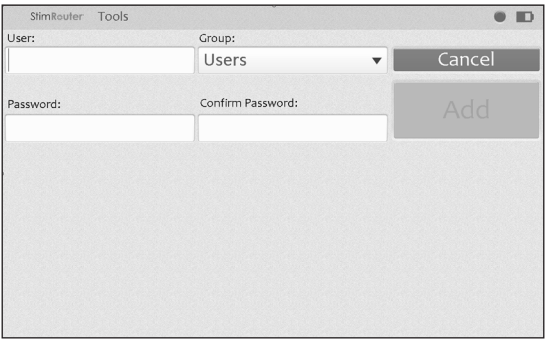

Figure 9-3: Add new user window.
2. Enter a username and password, confirm the password, select either "Users" or "Administrators" from the "Group" drop-down list, and then press the "Add" button. **See Figure 9-3.**